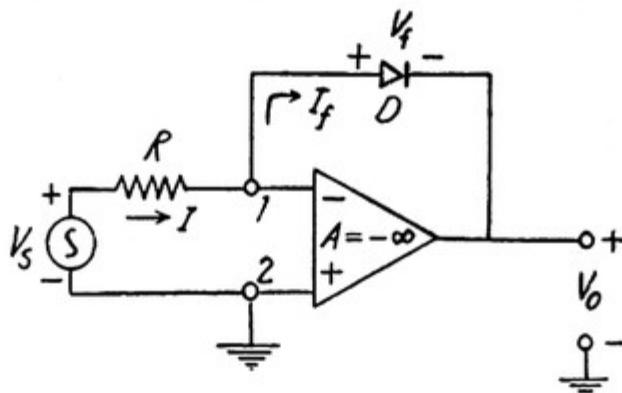

Fig. 24 Log amplifier.
(8) Logarithmic Amplifier : In this amplifier (fig. 24) output voltage is proportional to the logarithmic of the input voltage. Such an amplifier uses the non-linear volt-ampere relationship of a *p-n* junction. This relationship is given by